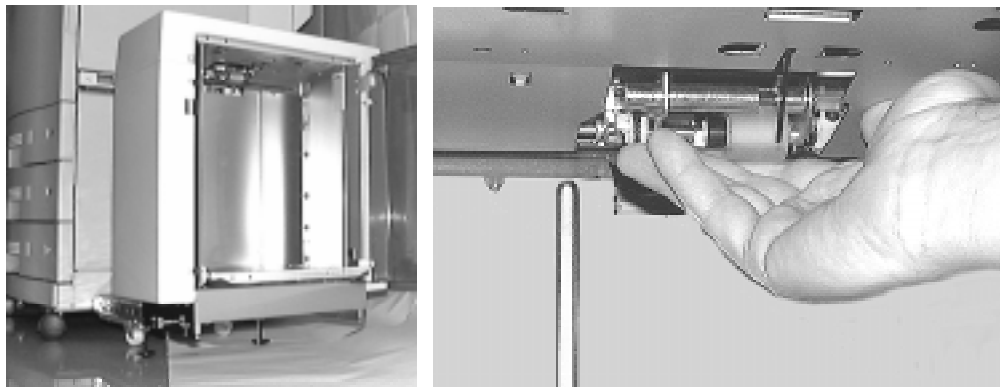

Figure 4-60 HCI interior and Upper Roller Assembly location
6. Move to the front of the HCI. Locate the upper roller assembly on the top underside of the HCI, as shown in Figure 4-60. Hold this assembly up with your hand.